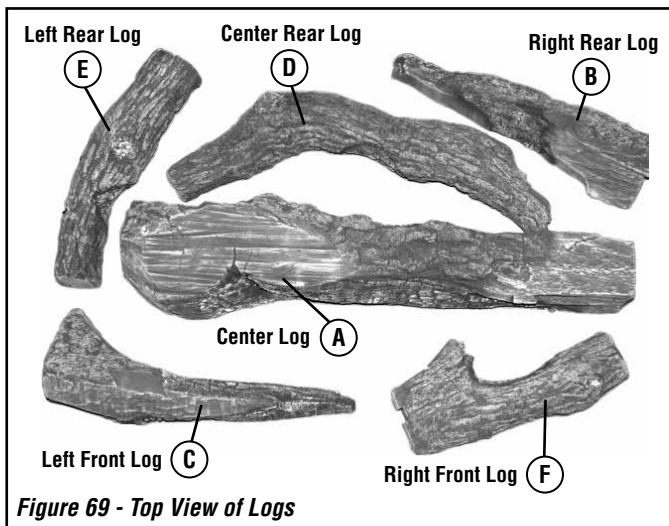

Figure 69 - Top View of Logs
5. Install logs (reference *Figure 69* and *Table 5*).